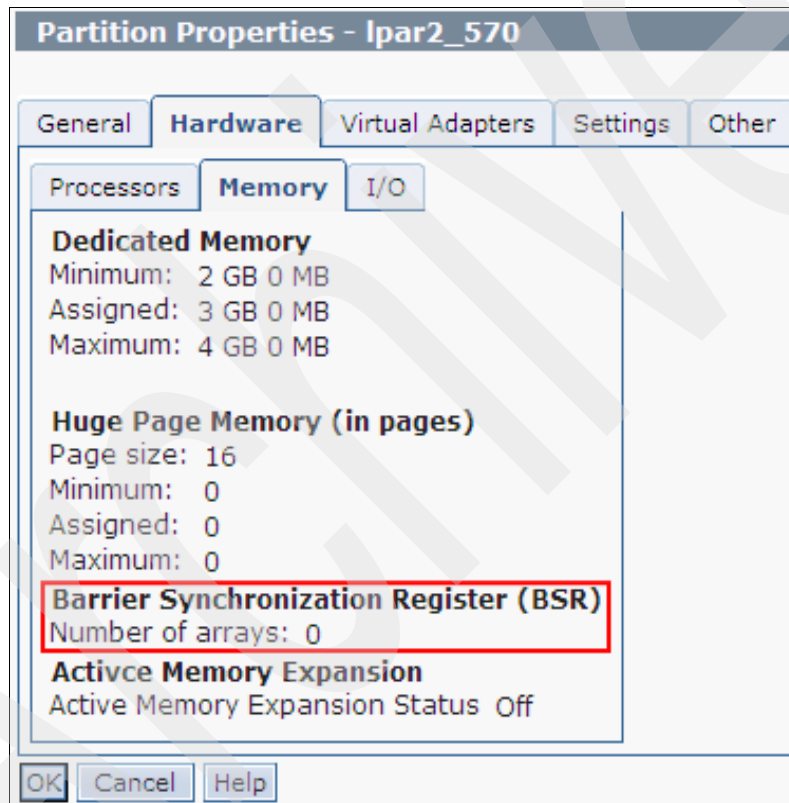

Figure 4-10 Barrier Synchronization Register (BSR)
- ▶ The mobile partition cannot use the BSR for active migration, as shown in Figure 4-10.